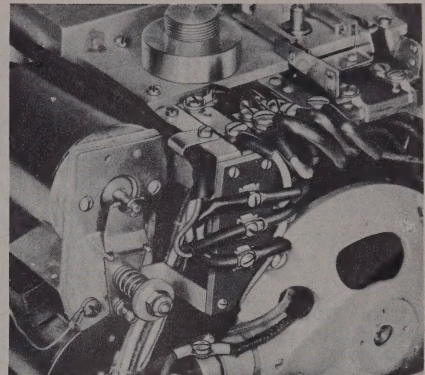

Fig. 76—Servo Unit with Vertical Terminal Block
7. Electrical connections to the balance pot and wiper are made at a terminal block at the rear of the unit. Figure 76 shows the type of block in current production, whereas Figure 68 illustrates an earlier type in common use.